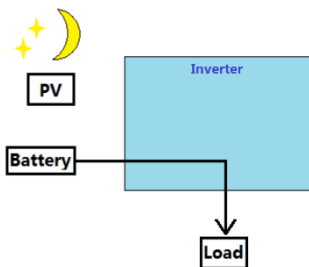

Figure1-11
3. When PV is insufficient, Batteries supply power to the load. (Figure1-11)